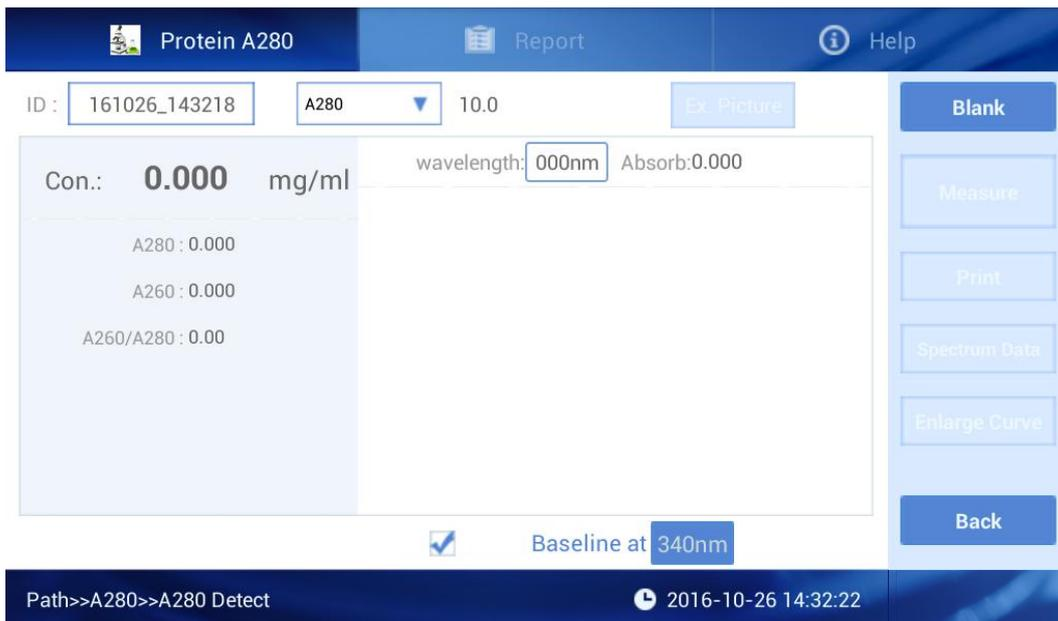

Fig 4.9 Protein detection interface
Click “Protein A280” enter the interface Fig 4.9.
As Fig 4.9, there are three options at the top of the screen, Protein A280, Report, Help.
1) Interface Fig 4.9, only the light blue area is clickable.
① : The sample batch No., default value is the current time, users can also edit ID by themselves. One ID can include as many as 1000 detection results.
② : Click to choose Nucleic Acids type, when you choose “others” and type in the Nucleic Acids factor the instrument will calculate as you set.
③ : Blank the buffer, this step is essential before measurement. Blank absorbance value is during 0.004-0.03 Abs. The validity of blank control is 30 min and after 30 min, the system will automatically remind you to make blank detection.
④ : You can choose or cancel the baseline calibration, the default baseline calibration wavelength is 340nm. User can also input wavelength according to requirement. Any experiment, the baseline is automatically set as the absorbance value of the chose wavelength, all results should minus this value.